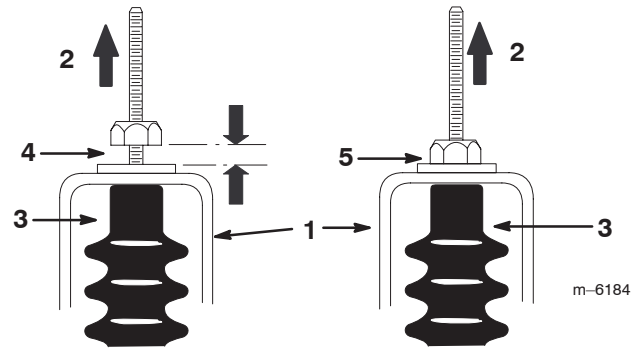

Figure 26
5. Pull up on each shift cable and ensure that there is no gap between the nut/washer and the neutral bracket (Fig. 26). If there is a gap, tighten the nut.